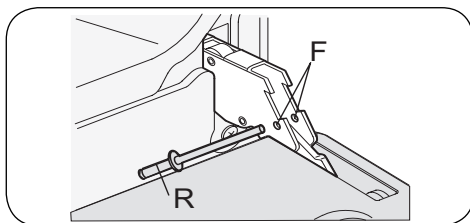

Fig. 6
LOCK AT LEAST ONE HINGE (fig.6)
- Open the oven door and insert rivet or nail (R) in the hole (F) of the hinge (fig. 6).